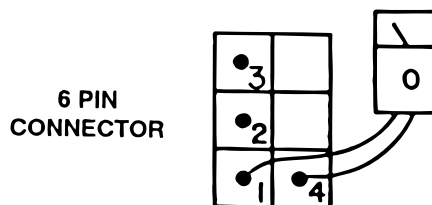

Figure 5-5. Back View Connector B
3. Use an ohmmeter R x 1 scale to measure the following connector pins in connector B. See figure 5-5.